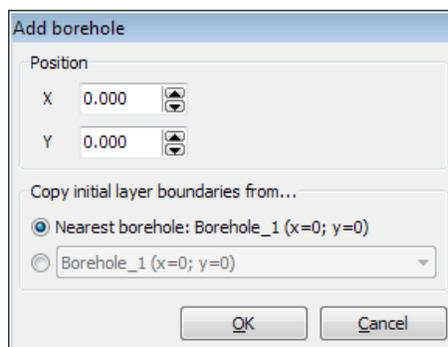

Figure 30: **Add borehole** window
- Click *Boreholes* (lower button) and select the **Add** option. The **Add** window pops up (Figure 30: Add borehole window (on page 62)).